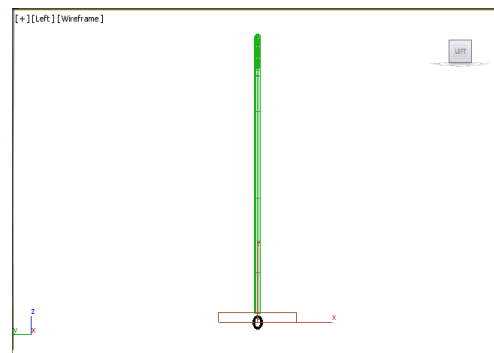

Figure 5-28 The joint displayed
4. In the **Rendering** rollout, make sure that the **Enable In Renderer** and **Enable In Viewport** check boxes are selected. Also, make sure that the **Radial** radio button is selected. Next, set the value **0.05** in the **Thickness** spinner and press the ENTER key; *joint* is displayed at the bottom of the viewport, as shown in Figure 5-28.